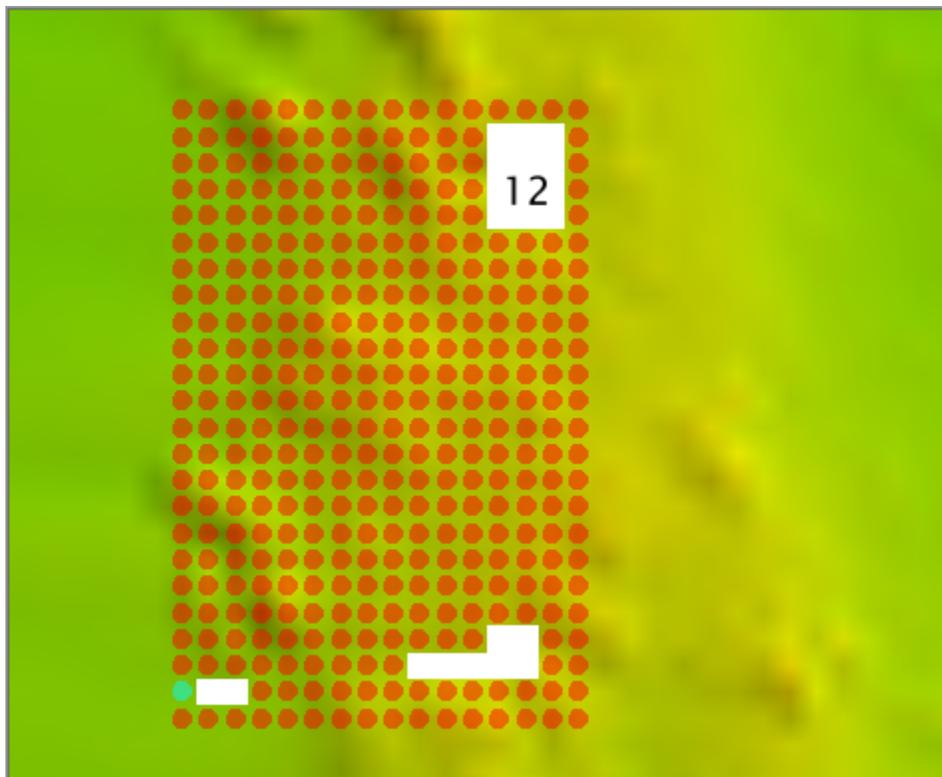

Fig. 2.15: Example for Full coverage.
- In the example in (Fig. 2.15), Full Coverage requirements identify the hole of 12 grid nodes, because there it contains an instance of 3x3 unpopulated grid nodes. The holes with 7 and 2 nodes do not.